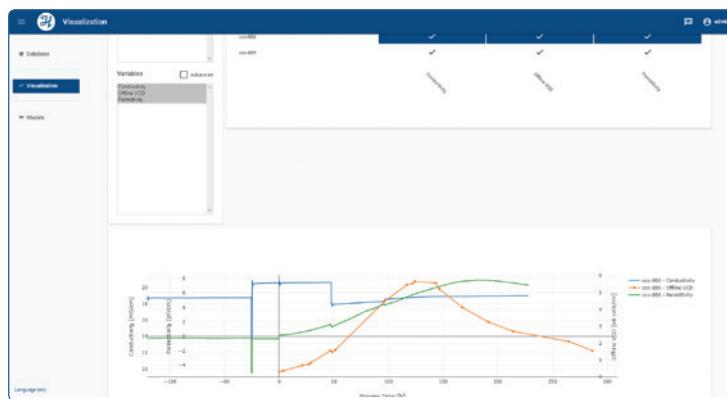

Figure 53: Data visualisation
- 3) The selected data is graphed in the lower part of the screen (figure 53); each batch is displayed in one graph, which can be in 1 or 2 plots, whereas 1 plot is set as standard. Data can be aligned to an event (all batches are aligned to time zero, which is the time of induction). If required the selected data can be exported as json, excel or csv-file.
- Select the culture performed. Algorithms for animal cell culture, yeast or bacterial fermentation are available (figure 53).